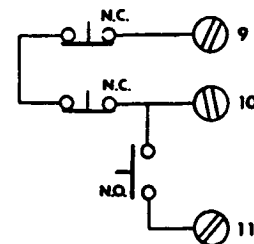

Fig. 4
- Channel 3 will operate with (N.C.) and/or (N.O.) contacts as shown in Figure 4.